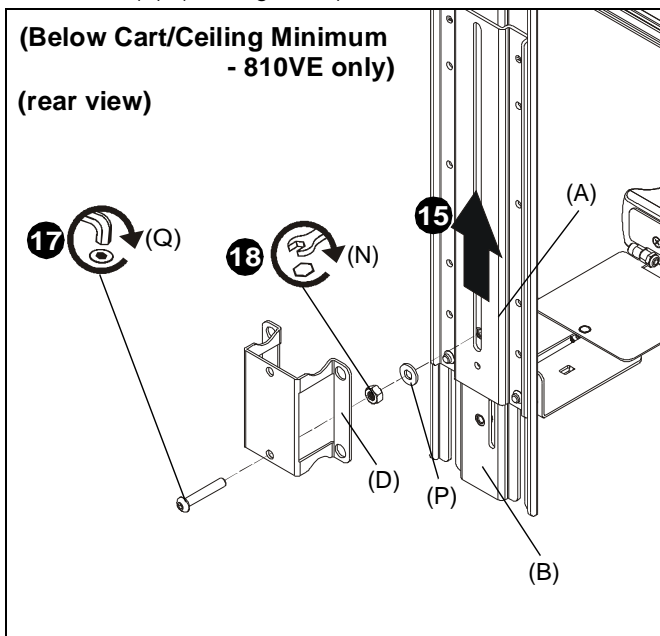

Figure 16
17. (For **minimum extension - 810VE only**) Use 1/4-20 x 1 1/2" button head cap screw (Q) and 1/4-20 hex nut (N) and large washer (P) to extender box holder (D) and upright bracket (A) to main bracket (B). (See Figure 16)
18. (For **minimum extension - 810VE only**) Tighten 1/4-20 hex nut (N) to fully secure upright bracket (A) to main bracket (B). (See Figure 16)